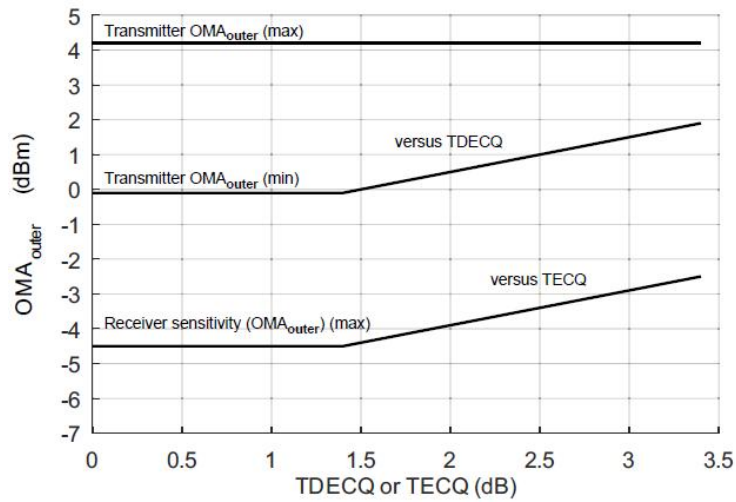

Figure 6. Illustration of Transmitter OMA_{outer} and Receiver Sensitivity Mask for 800G-DR8+
2. The values for OMA_{outer}(min) vary with TDECQ. Figure 6 illustrates this along with the values for OMA_{outer}(max).
5. Receiver sensitivity (OMA_{outer}) is informative and is defined for a transmitter with a value of TECQ up to 3.4 dB. Receiver sensitivity should meet Equation (1), which is illustrated in Figure 6.